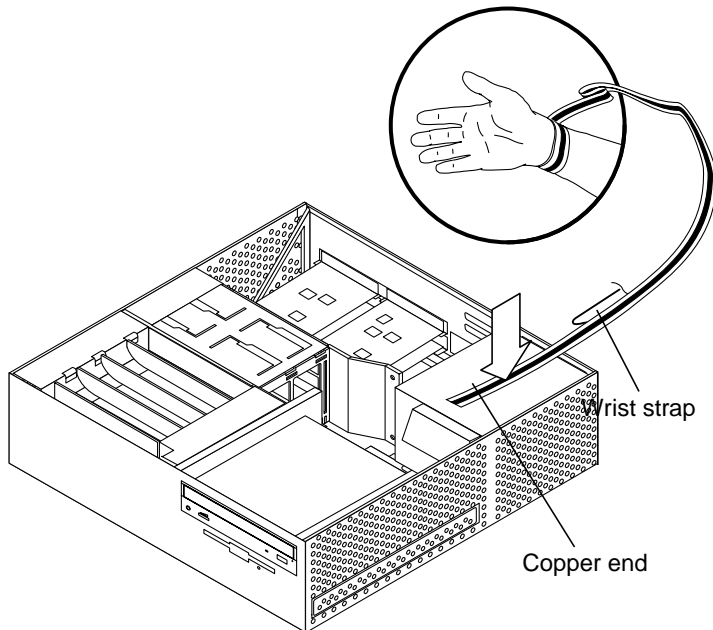

**FIGURE 2-3** Removing the Cover
2. Pull the two top cover tabs to free the cover from the back panel (FIGURE 2-3).
- a. Lift the cover from the back panel (FIGURE 2-3).